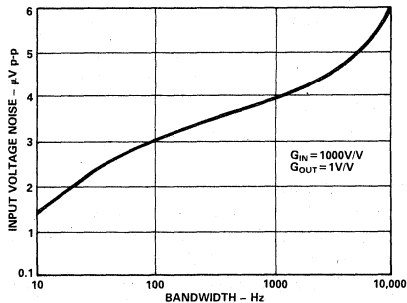

Figure 7. Typical AD295 - Input Voltage Noise vs. Bandwidth
**Input Voltage Noise vs. Bandwidth:** Voltage noise referred to the input is dependent on gain and bandwidth. Figure 7 illustrates the typical input noise in  $\mu\text{V}$  peak-to-peak in a 10Hz to 10kHz frequency range.